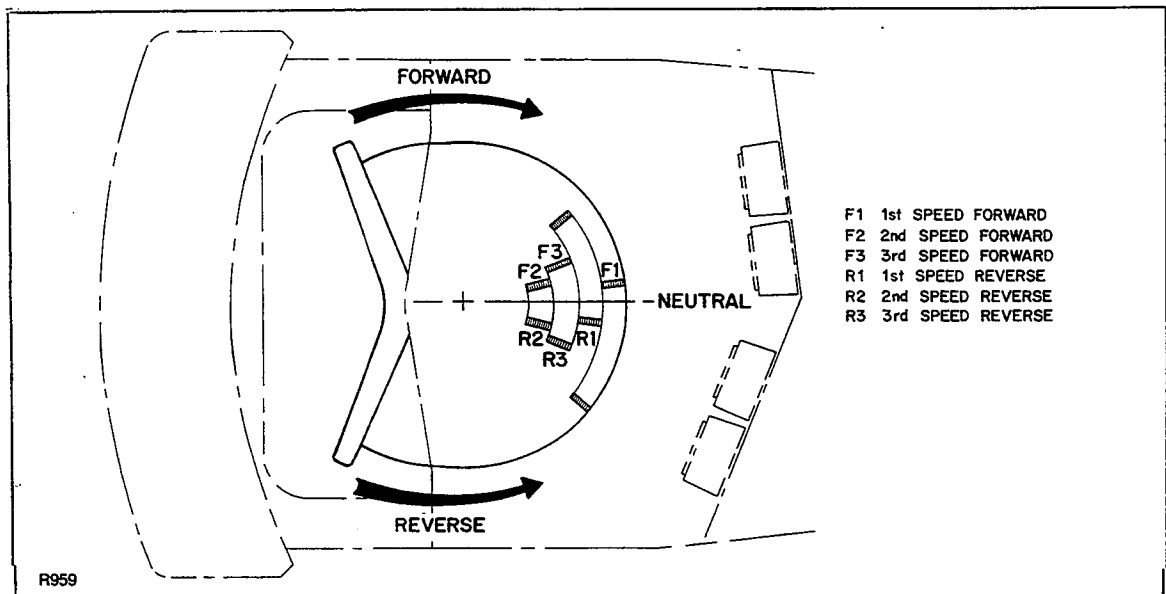

Figure 3-13. Switch Cam
4. Disconnect and remove connector mounting plate (26) and speed control harness.
5. Disconnect pushbutton switch (30), and remove switch box (22 and/or 32).
NOTE PC board and switch assembly (14) on the speed control switch (1) are actuated by switch cam (15) in the sequence indicated in figure 3-13, Switch Cam.
6. Check that the speed control switch is actuated properly by the switch cam as shown in figure 3-13 (area F1 actuates first speed forward and so forth). At this time, check that the high speed pushbutton switch on the control head of 24 volt electrical systems works properly.